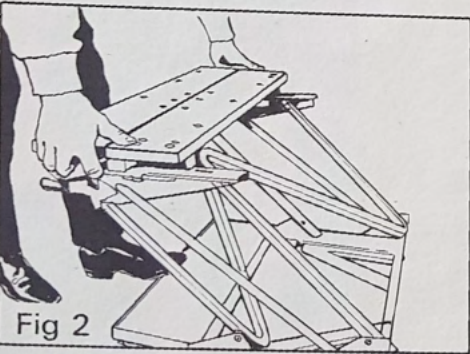
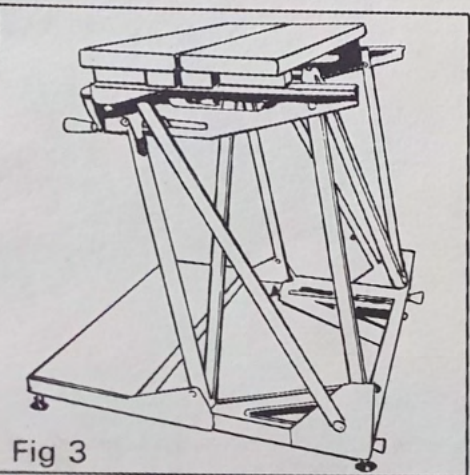

Fig 2
Fig 3
- 3 Lift the vice bars up and away (Fig. 2) until both safety catches engage. These catches will only engage when the unit is fully erected (Fig. 3). Do not attempt to use the Workmate until safety catches are engaged.